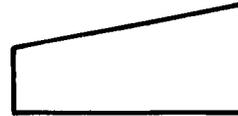

Fig. 6—Manual Input Symbol
2.06 *The manual input symbol* (Fig. 6) represents an input function in which the information is entered manually at the time of processing; for example, by means of on-line keyboards, switch settings, or pushbuttons.